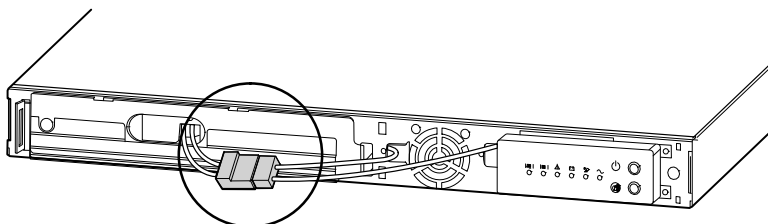

Figure 4. Connecting the Internal Battery Connector
4. Connect the internal battery connector (see Figure 4).